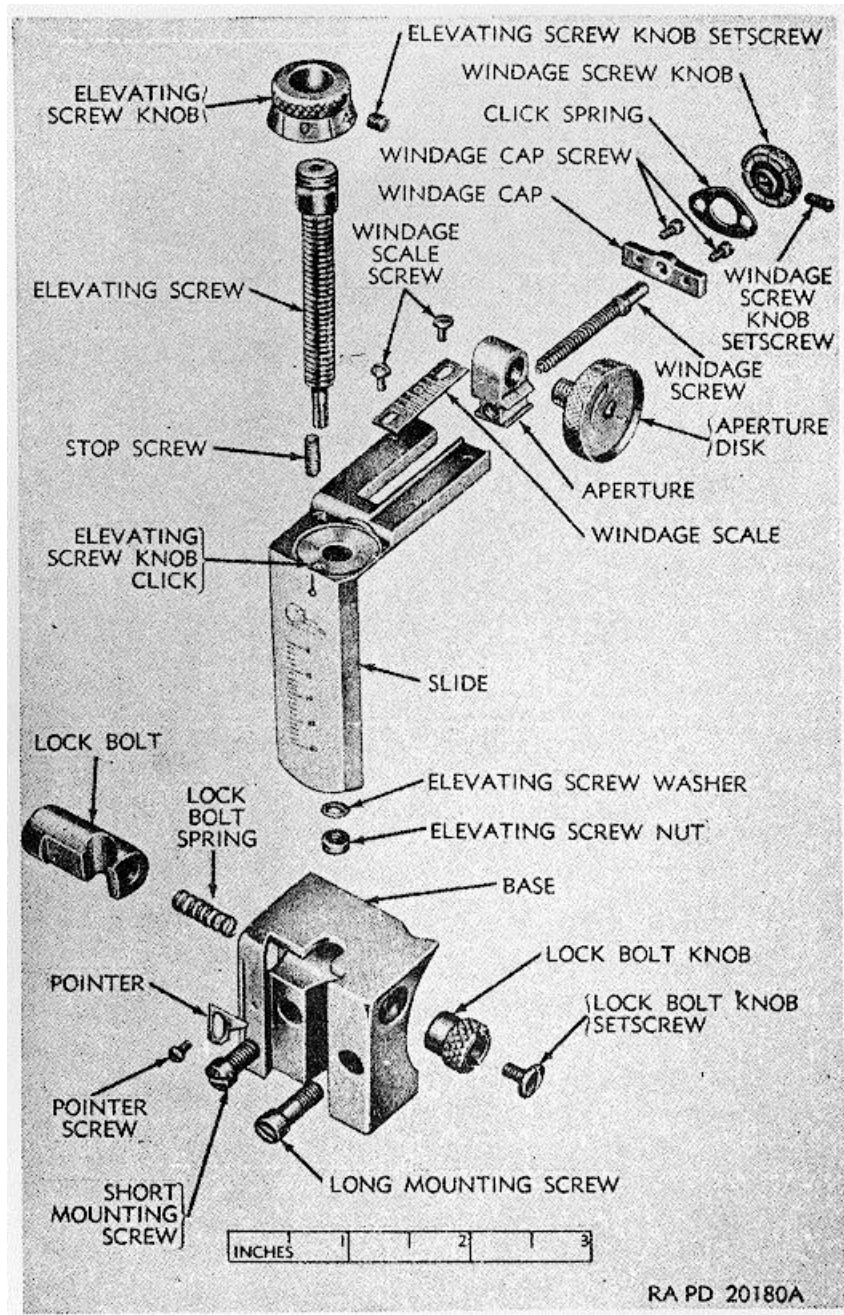

Figure 66. Lyman rear sight 48WH assembly-exploded view.
- (1) Replace inserts if they are worn or broken.
- (2) Replace worn or broken insert holding nut and base locking bolt.
*b. Disassembly (fig. 66).*
- (1) With a small jeweler's screwdriver, loosen the windage screw knob setscrew in the windage screw knob, and remove the knob and rear sight click spring. Remove the two windage cap screws from the windage cap and remove the cap.
- (2) Unscrew the rear sight aperture disk from the rear sight aperture.
- (3) Remove the rear sight aperture and rear sight windage screw. Remove the screw from the aperture.
- (4) Unscrew the two rear sight windage scale screws and remove the rear sight windage scale.
- (5) With a split-type screwdriver, remove the elevating screw nut on the bottom of the elevating screw and remove the elevating screw, elevating screw knob, and washer. The knob may be removed from the screw by loosening the elevating screw knob setscrew in the knurled portion with a jeweler's screwdriver.
- (6) Remove the rear sight lock bolt knob setscrew from the center of the lock bolt knob, and remove the rear sight lock bolt knob and lock bolt spring. Remove the lock bolt.
- (7) Remove the rear sight pointer screw and rear sight pointer.
- (8) The rear sight stop screw can be removed by unscrewing it from the slide.
- (4) Check functioning of the lock bolt knob.
- (5) Check "numbers" on windage scale and sight slide for wear.
- (6) Examine threads of elevation screw and windage screw for wear or burrs.
- d. Assembly (fig. 66).
- (1) Insert the rear sight lock bolt and lock bolt spring into the rear sight base.
- (2) Place the lock bolt knob on the lock bolt and install the lock bolt knob set screw in the center of the knob.
- (3) Assemble the rear sight elevating screw knob on the elevating screw and tighten the elevating screw knob set screw in the knob. Install the rear sight stop screw in the rear sight slide and adjust it for zero elevation. Install the elevating screw in